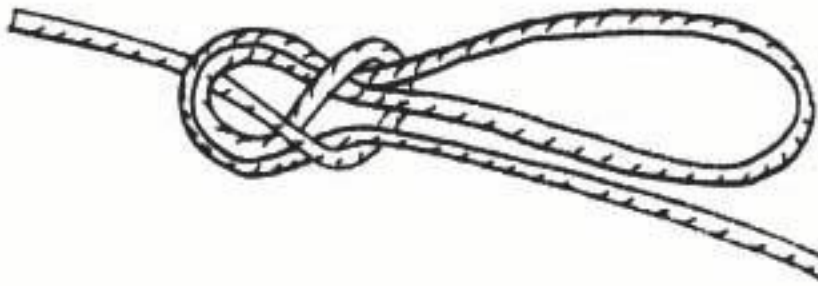

Figure 2-26. Directional Figure "8" Loop
(3) Directional Figure "8" Loop. This forms a single, fixed loop that can be tied so that the loop faces either the standing end or the running end. It may be used as a primary and secondary anchor (Figure 2-26).